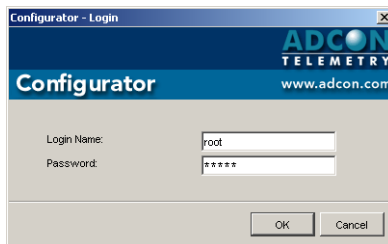

Figure 3. Configurator's Login Window
5. You are prompted for a user name and a password (see Figure 3). Use the account `root`, whose default password is `840sw`. If you changed the password, use the new one.